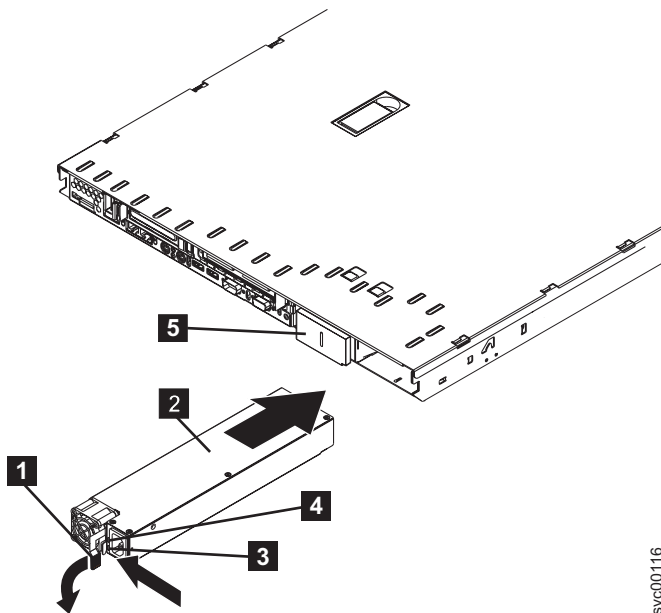

Figure 164. SAN Volume Controller 2145-8F2 power supply
- a. Rotate the handle **1** down on the rear of the power supply to the open position, and then slide the power supply forward into the power-supply bay, as shown in Figure 164.